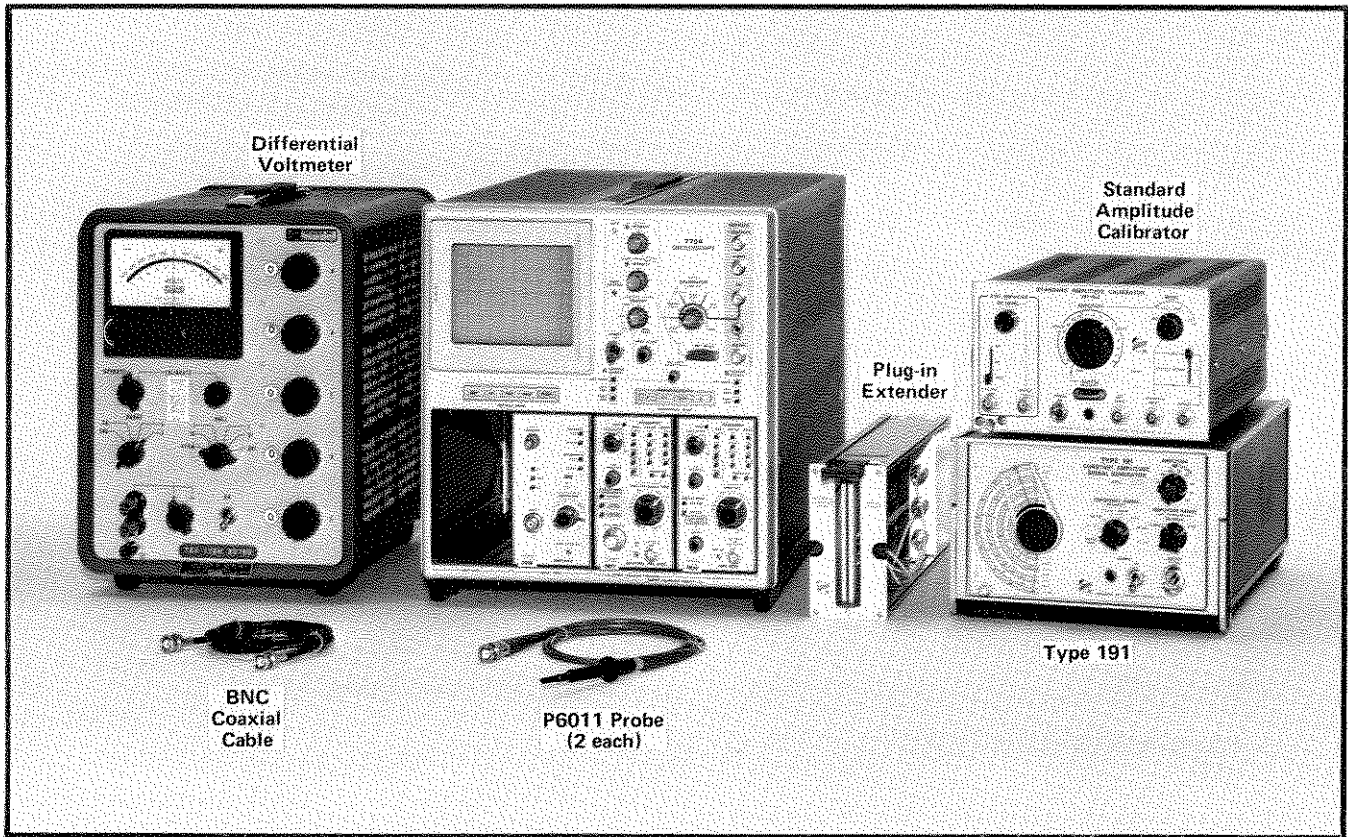

Fig. 5-1. Test equipment required for steps 1 through 9.
a. Test equipment required is shown in Fig. 5-1.